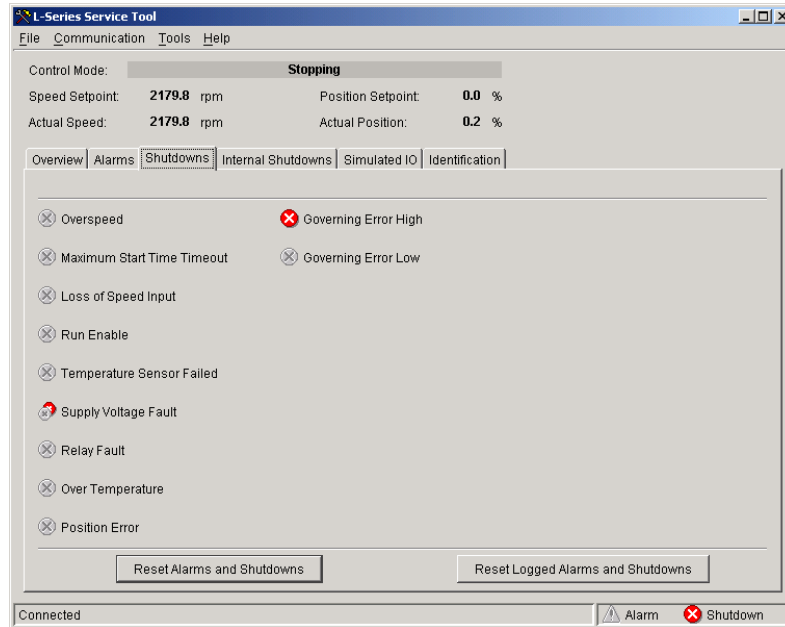

Figure 5-5. Service Tool—Shutdowns Tab
- Shutdowns (see Figure 5-5)
To monitor the shutdown conditions, go to the Shutdowns and the Internal Shutdowns pages (figures 5-5 and 5-6) on the main window. The values displayed on the Shutdowns screen dynamically change with the fault configuration. Refer to Chapter 4 for a complete listing and details of all the faults.